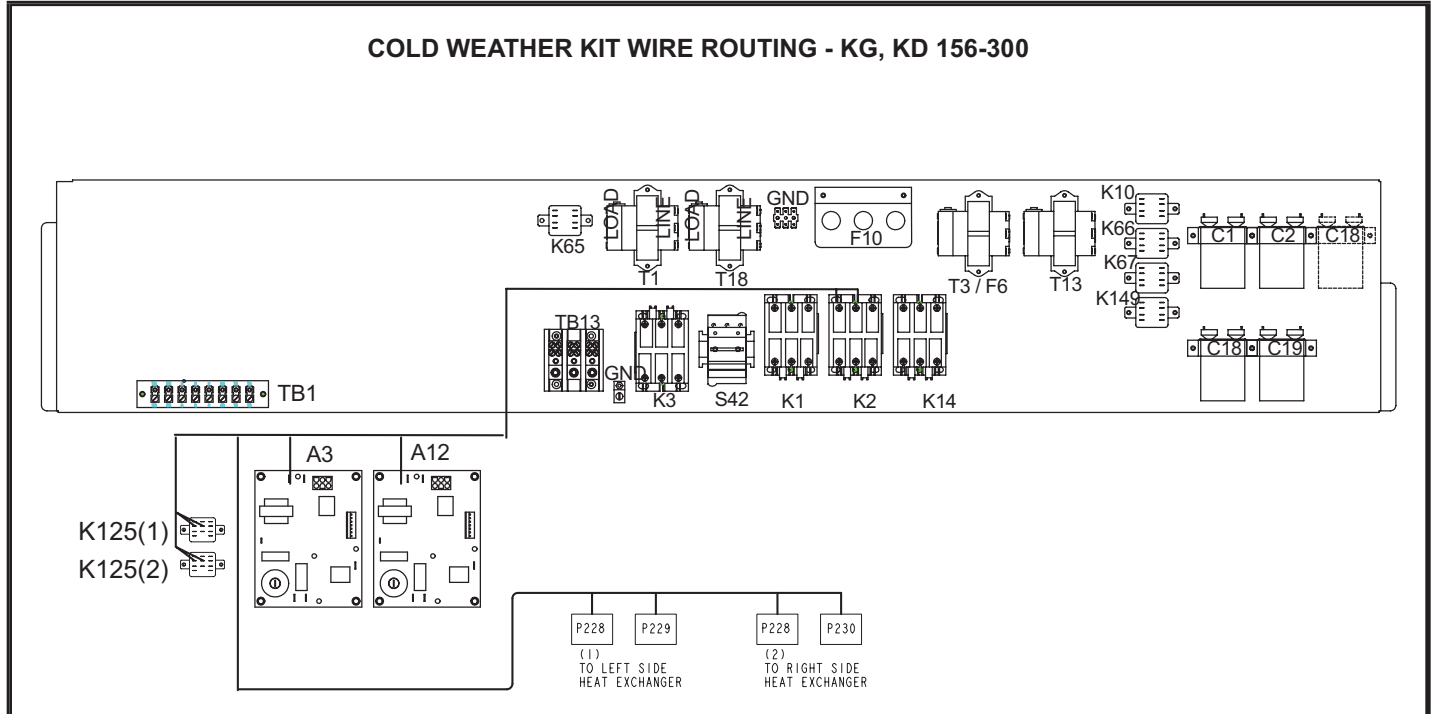

FIGURE 17
- 3 - Install both K125 relays in control area above compressors. Secure with #8 screws. See FIGURE 17.
- 4 - Locate harness labeled 604785-01 and route as shown in FIGURE 17. Secure with wire ties. Discard unused harnesses.